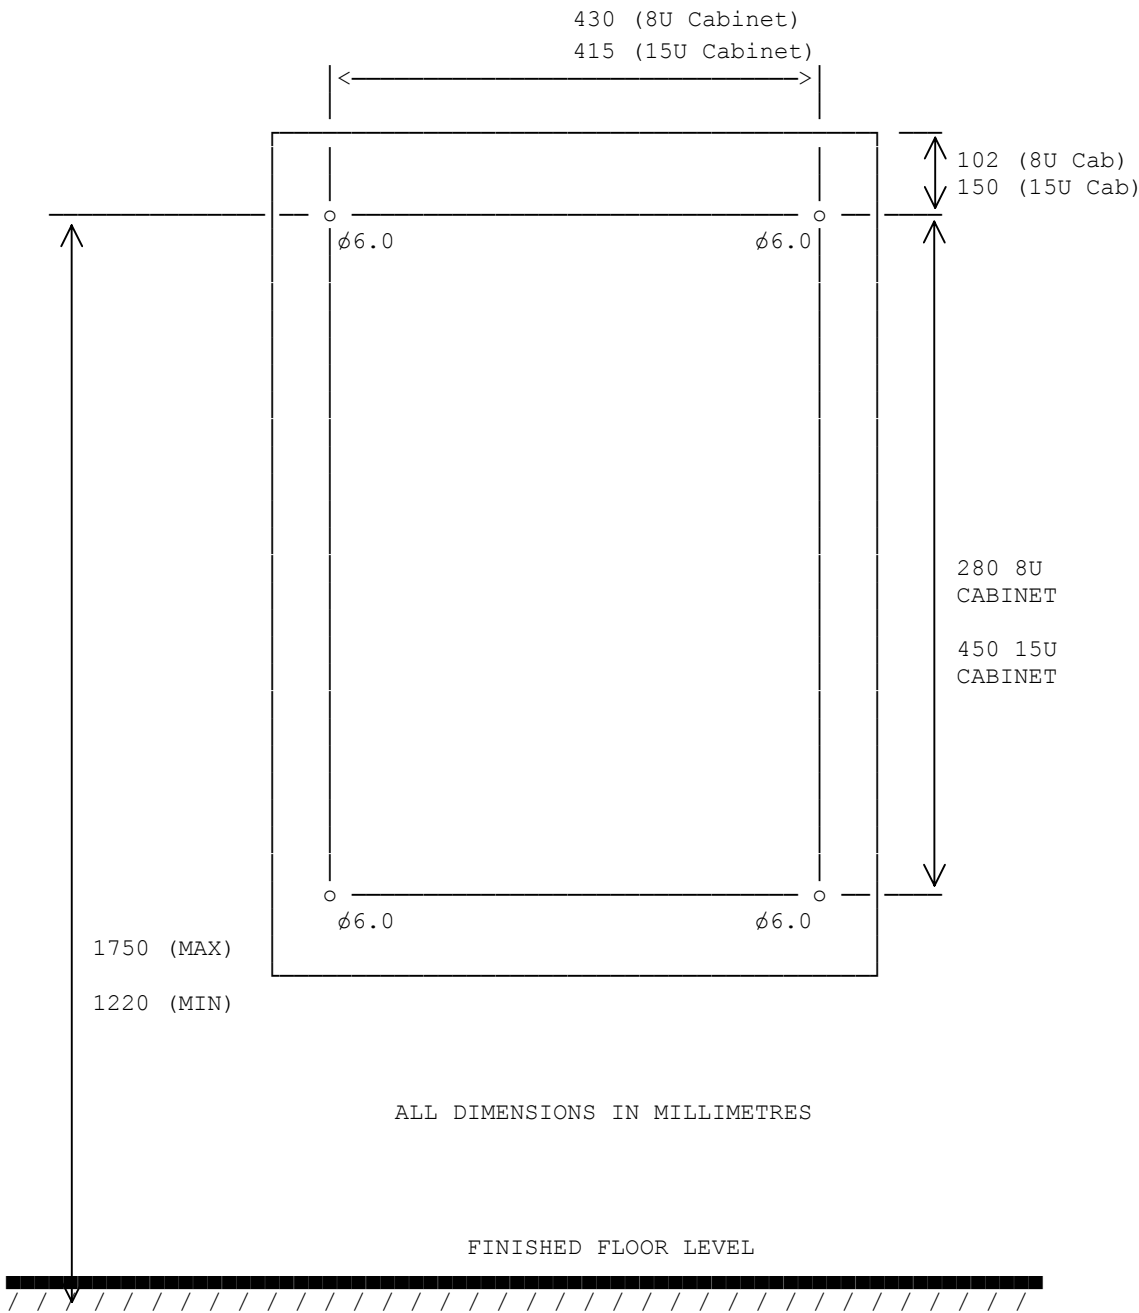

FIG 5.1.1
The cabinet is normally fixed to a wall with four 6 mm screws or bolts. The drilling details are shown in Fig 5.1.1.
4. The LCD should be at average eye level and must not be higher than 1850 mm or lower than 750 mm above floor level (see Fig 5.1.1).